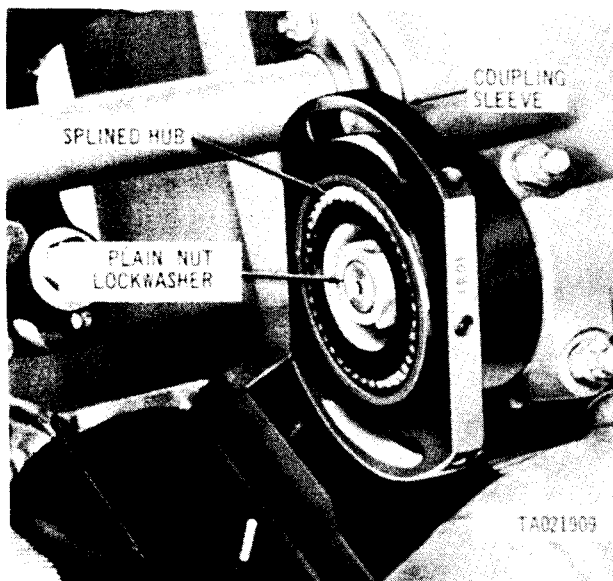

Figure 2-118. Removing or installing, fuel injecton pump coupling from gearshaft.
(6) Remove plain nut and lockwasher (fig. 2-118) attaching fuel injection pump drive coupling half to fuel injection pump spur gearshaft. Remove coupling sleeve splined hub and key using improvised puller (fig. 2-2).
pump coupling sleeve (fig. 2-118) on fuel injection pump spur gearshaft and install lockwasher and plain nut. Torque tighten nut to 900 pound-inches.